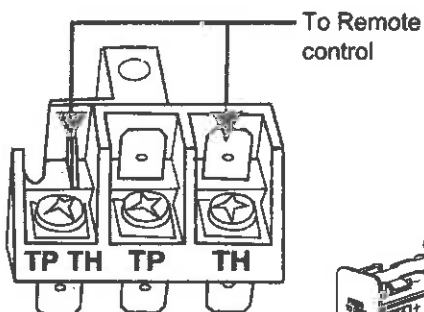

Figure 1
2. Connect the wires to the TH and TPTH terminals of the Millivolt valve. See *Figure 1*.